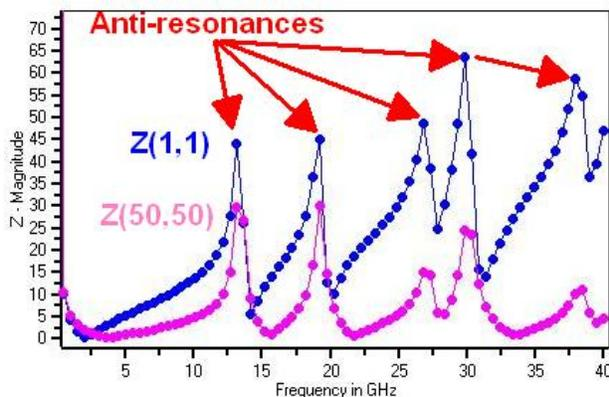

Figure 2a Self Impedance
Impedance is a function of capacitance, resistance and inductance and varies over frequency. Therefore, lowering the impedance requires a target impedance and determining where anti-resonances occur. Anti-resonances are frequencies where the Impedance (Z) is significantly higher than other frequencies' Impedance (Z) levels (Figure 2a shows an example).